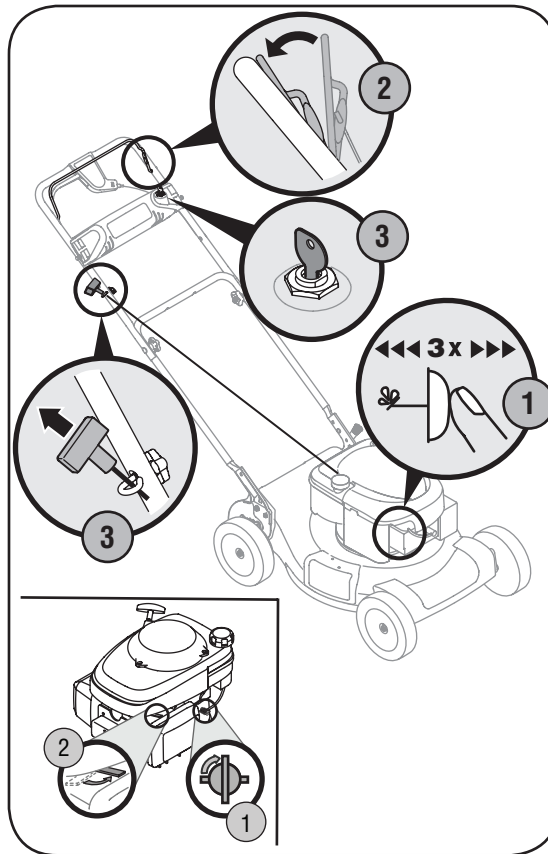

Figure 4-2: Starting the mower.
1. Push primer (if equipped) three times. Wait about two seconds between each push. See Figure 4-2. In temperature around 55°F or below, prime five times. Do not prime to restart a warm engine.
2. Standing behind the mower, squeeze the blade control against upper handle. See Figure 4-2.
3. **Recoil Start:** Grasp recoil starter handle and pull rope out with a rapid, continuous, full arm stroke. See Figure 4-2. Keeping a firm grip on the starter handle, let the rope rewind slowly. Repeat until engine cranks. Let the rope rewind each time slowly.
**Electric Start (If Equipped):** Turn ignition key to the right to start the engine. See Figure 4-2. Release the key after the engine starts.
2. Move the choke lever (If equipped) all the way backward into the choke position. See Figure 4-2 inset.
3. Standing behind the mower, squeeze the blade control against upper handle as shown in Figure 4-2. The choke will now begin to slowly return to the off choke position after activating the blade control. Therefore, quickly move onto step four below.